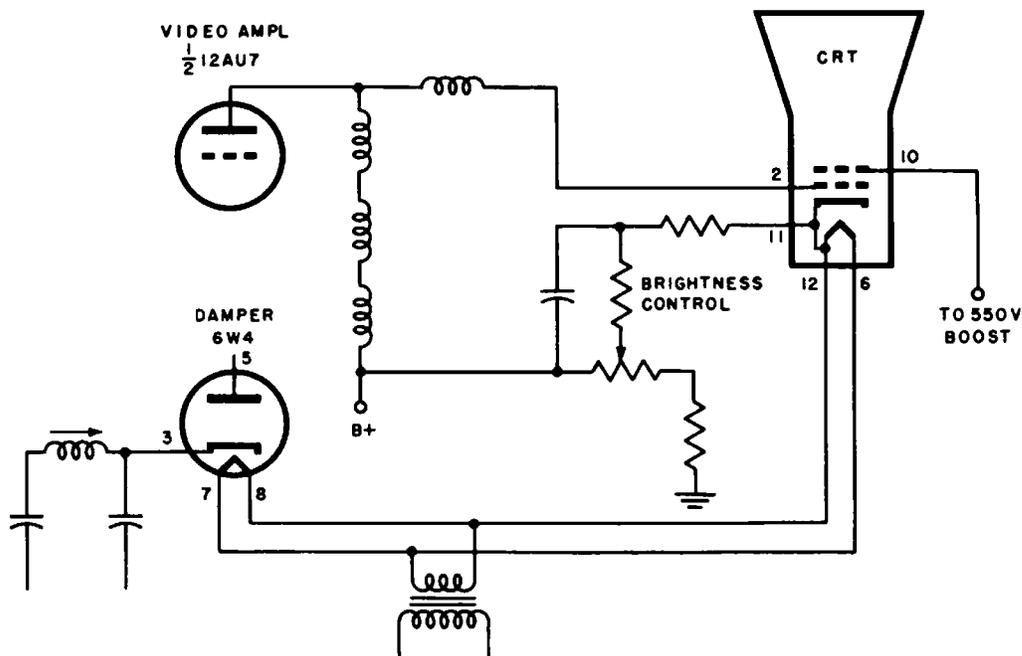

Fig. 4-5. Partial schematic of damper and brightness circuit illustrating the effect of a heater-to-filament short in the damper tube.
**QUES. 4-5.** No raster is evident on the picture tube, regardless of the setting of the brightness control. The voltage at the picture tube anode is checked by arcing, and is found to be normal. Adjustment of the ion trap magnet is attempted, but to no avail. Voltage checks are made at the picture tube and all voltages appear to be normal, with the exception of the cathode voltage, which measures 550 volts. In the circuit illustrated in Fig. 4-5, what is the probable cause of trouble?
**DISCUSSION.** In the circuit of Fig. 4-5, it may be noted that the voltage applied to pin 10 of the picture tube is 550 volts, the boost voltage of the damper circuit. If, when servicing the receiver, a
550-volt potential is encountered at a point other than where this high boost is supposed to be, trouble should be suspected in the damper section. Thus, in Fig. 4-5, if a cathode-to-filament short occurs in the 6W4, the boost voltage at the cathode of the damper is applied to the filament and cathode of the picture tube, and will be noted if voltage checks of the picture tube elements are made.
Because the filament circuit of the damper and picture tube is ungrounded for the receiver illustrated in Fig. 4-5, the shorted damper tube would not affect the magnitude of the boost voltage.